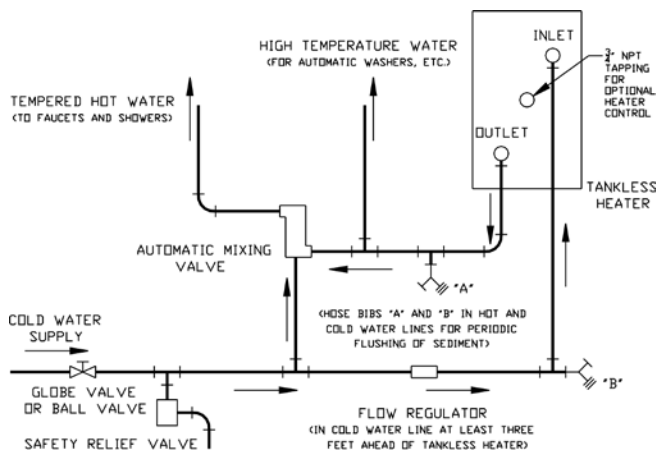

Figure 41: Schematic Tankless Heater Piping
1. **Hot Water Boiler/Tankless Coil(s)** – Tankless coils, mounted into the side of the boiler(s), have been used successfully for many years and may be used in single and multiple boiler applications. When a boiler is arranged with tankless coils, it is not recommended that outdoor reset be used, unless there are controls in place to prevent overheating of the space heating zones. Figure 41 depicts
- O. CONNECT TANKLESS HEATER PIPING** as shown in Figure 41. See Table V for Tankless Heater Ratings.
If flow through the heater is greater than its rating, the supply of adequate hot water may not be able to keep up with the demand. For this reason a FLOW REGULATOR matching the heater rating should be installed in the cold waterline to the heater. Refer to Figure 41 for piping recommendations. The flow regulator should preferably be located below the inlet to the heater and a minimum of 3 feet away from the inlet so that the regulator is not subjected to excess temperatures that may occur during “off” periods when it is possible for heat to be conducted
All water contains some sediment which settles on the inside of the coil. Consequently, the heater should be periodically backwashed. This is accomplished by installing hose bibs as illustrated in Figure 41 and allowing water at city pressure to run into hose bib A, through the heater, and out hose bib B until the discharge is clear. The tees in which the hose bibs are located should be the same size as heater connections to minimize pressure drop.